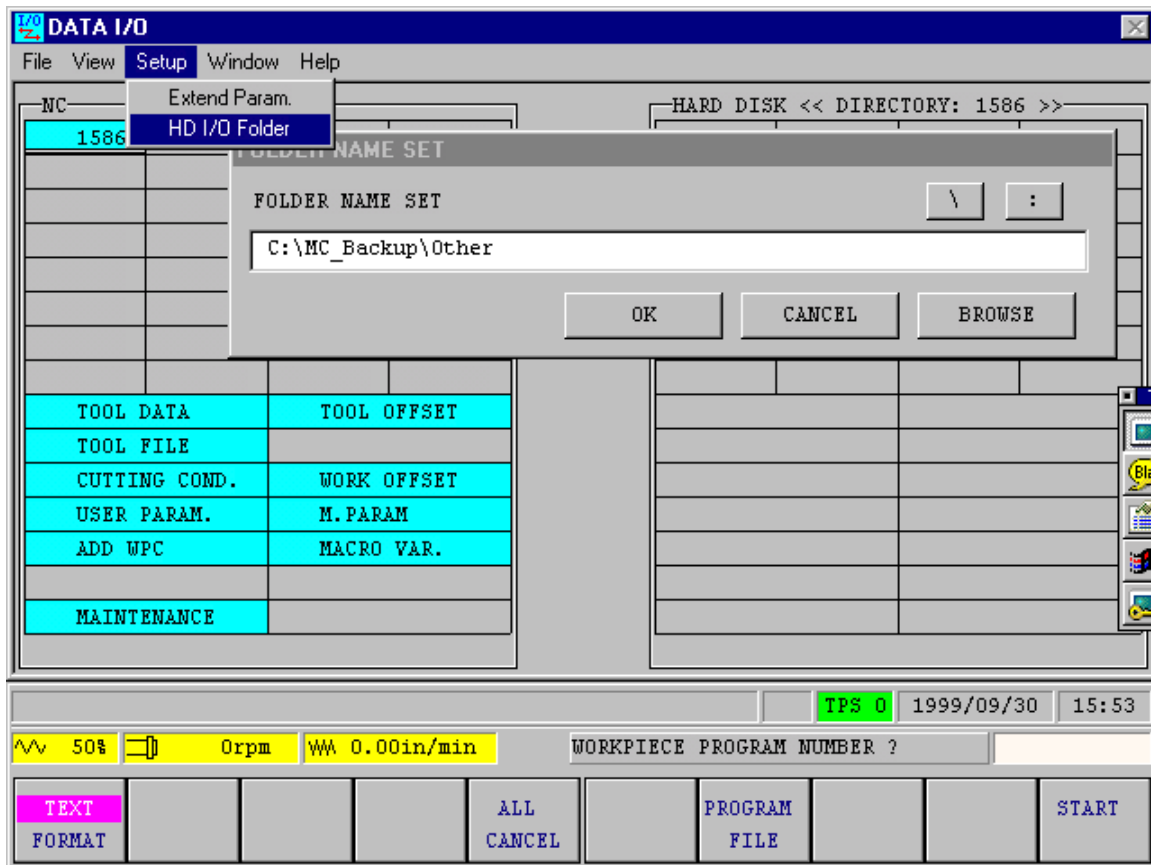

figure 1 Shows where Text Format button was added. If you wish to view the actual saving of each file, go to “View” and click on “I/O Status”.
- 6) If you wish to change to different folder than M_Backup/Other, select "Setup" and enter in new path(see figure1).